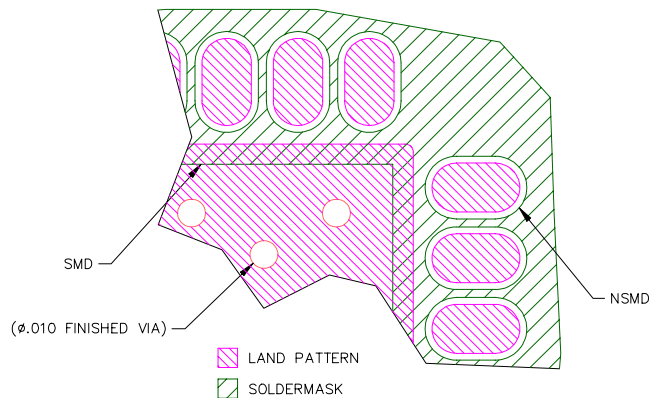

Figure 2: Example of SMD and NSMD Land Patterns
1. Solder Mask Defined (SMD) – Solder mask openings smaller than the mounting pads (Figure 2).
2. Non-Solder Mask Defined (NSMD) – Solder mask openings larger than the mounting pads (see Figure 2).